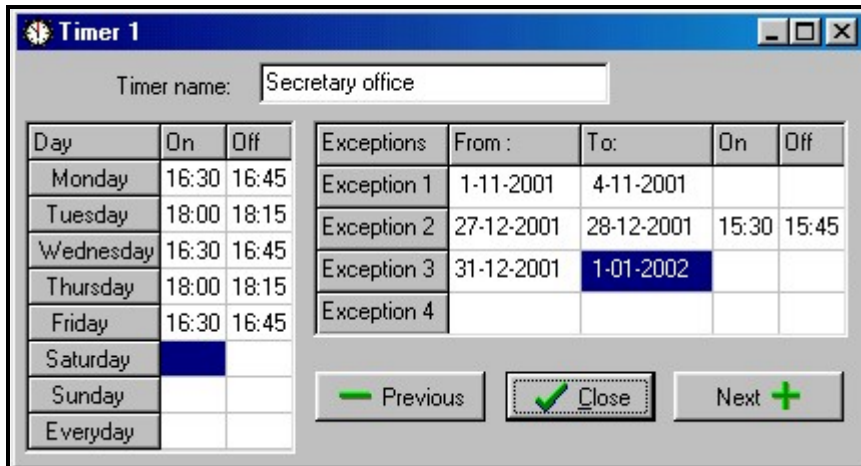

Fig. 3. Timing for partition controlled by timer.
- **Access according to timer** – the partition controlled by the user, but partition arming may be carried out only within time periods determined by timers selected. Partition cannot be armed and disarmed in time periods other than time periods determined by timers. For example, if the timer shown in Figure 3 is selected to control access to the “Secretary office” partition, the partition arming and disarming according to the schedule – on Monday between 16:30 and 16:45, on Friday between 18:00 and 18:15 and so on, except time periods given in the timer exception table.